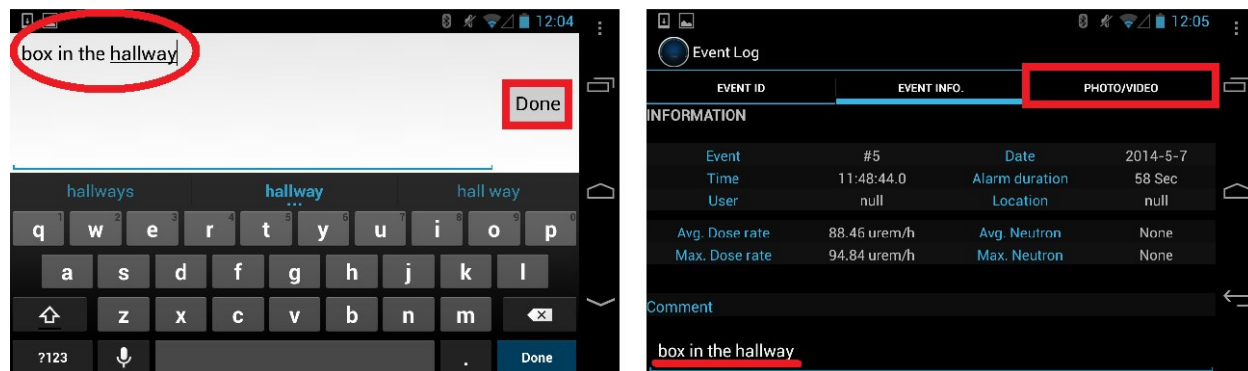
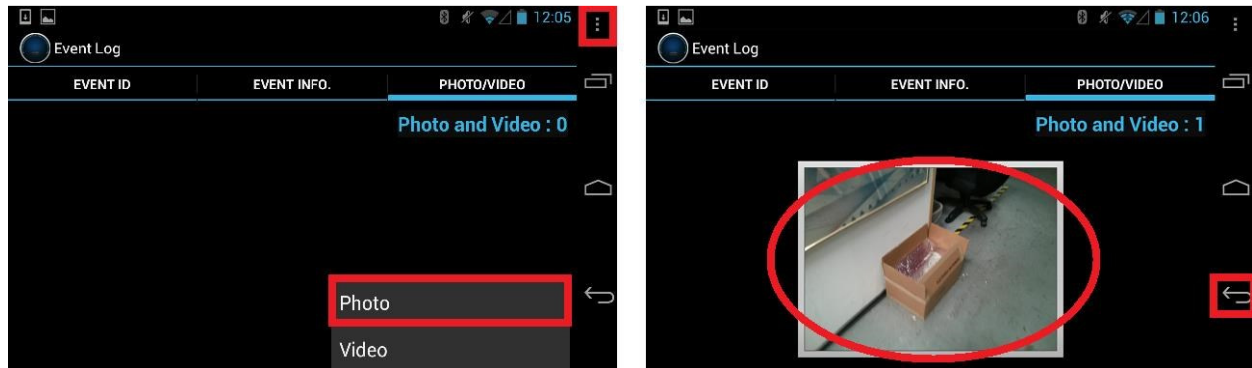

Figure 4.23. Attach Comment example
Figure 4.24. Attach Photo example
- b. Type your comment and touch **Done** (Figure 4.23, left). To add more text, repeat 2.a and 2.b.
3. To attach a photo, touch the **Photo/Video** tab (Figure 4.23, right) to open the Photo/Video screen (Figure 4.24).
- a. Touch the menu button and select either **Photo** or **Video** (Figure 4.24, left).
You will automatically be returned to the Photo/Video page. The image is now displayed as part of the event (Figure 4.24, right). Repeat steps 3.a through 3.c to add more images.
4. Touch the return key  on the lower right side of the screen (Figure 4.24, right) to return to the Event Log.